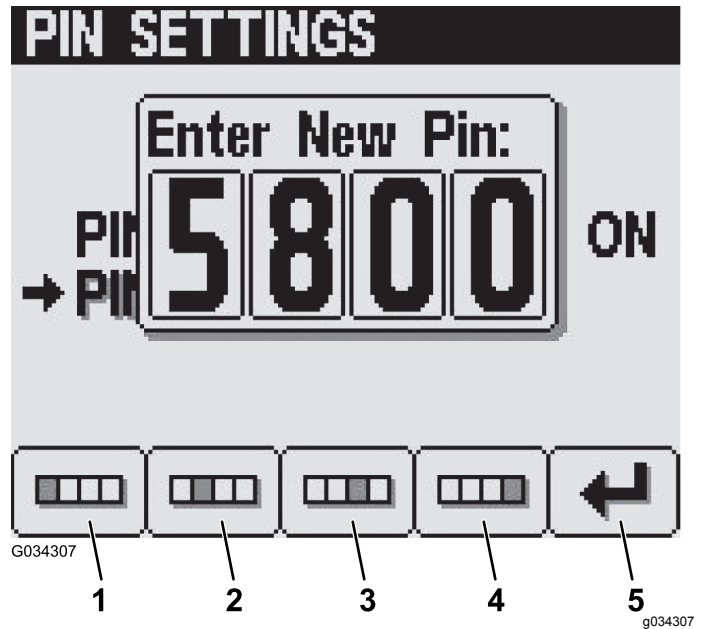

Figure 36
5. In the Enter New PIN screen, enter your new PIN using buttons 1 to 4, and press button 5 to enter the new PIN into the InfoCenter (Figure 36).